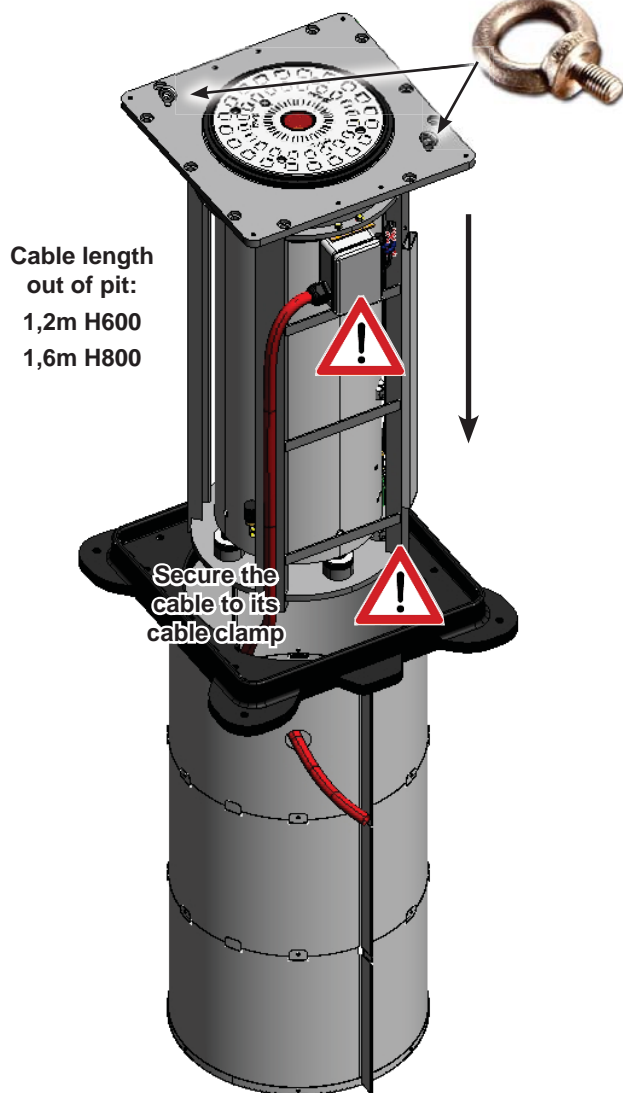

Fig. 8
**⚠ Take special care when positioning the cable between pit and bollard during the descent as well as to the junction box located on the bollard side (see fig. 8)**